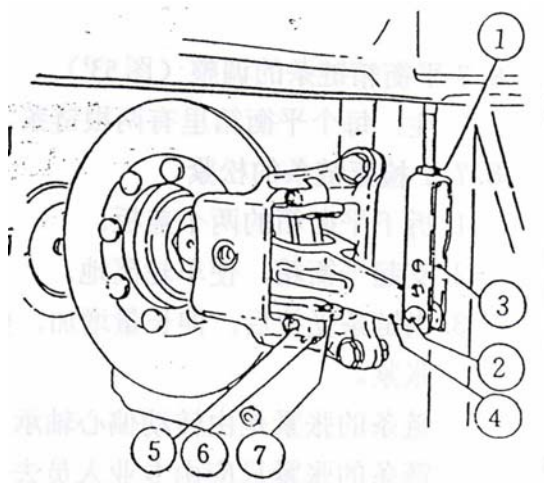

Fig. 52
1. Loosen the fastening nut (Fig.52/1) for some turns;
2. Remove pin (Fig.52/2);
3. Disengage the hitch yoke (Fig. 52/3) from claw beam ④ and screw it on by some turns;
4. Put the hitch yoke (Fig. 52/3) on claw beam (Fig. 52/4) and install the pin (Fig.52/2) and tighten fastening nut.
1. Loosen the bolt (Fig.52/5) and remove clamping plate (Fig.52/6);
2. Take out the baffle (Fig.52/7) along the direction of the claw beam (Fig.52/4);
3. Replace brake lining (The lining is along the direction of brake disc). Push in the baffle and fix bolt (Fig.52/5) with clamping plate, the anti-loosening glue must be applied to tighten. The torque is 23Nm~25Nm (2.3kgm~2.5kgm).